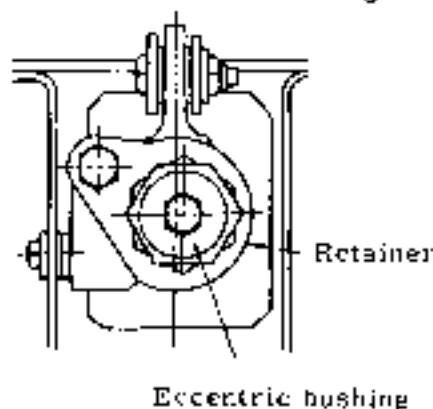

Fig. 5-40 Adjustment of eccentric bushing
- (b) Adjustment of eccentric bushing. (See Fig. 5-40)